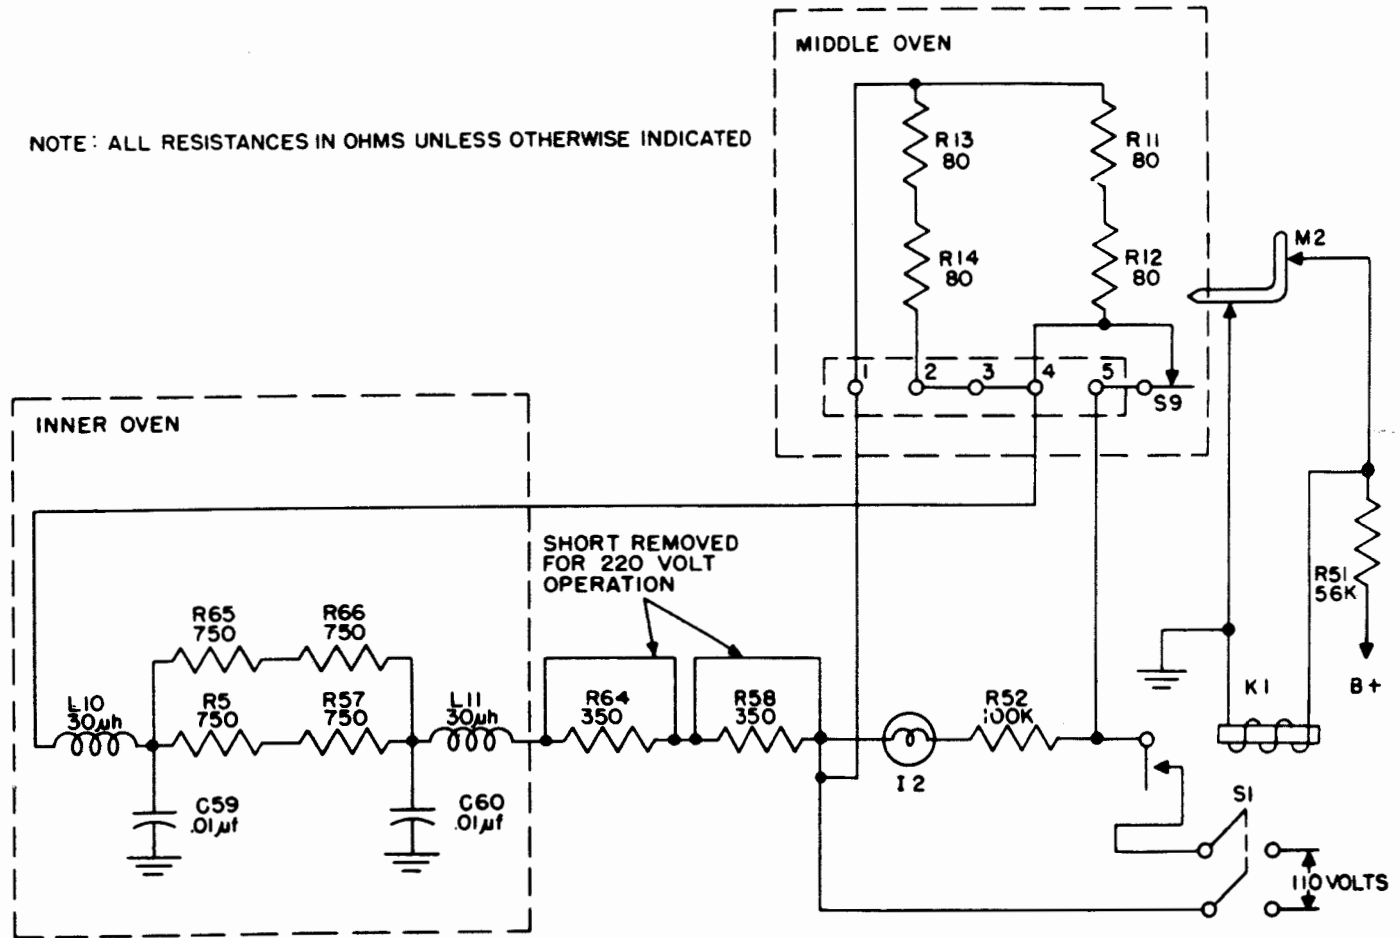

Figure 2-9. Temperature Control Circuit, Simplified Schematic
1. TEMPERATURE CONTROL. (See figure 2-9.)— A three-section oven in RF Oscillator O-165/UR is provided to control the temperature. The oven controls the temperature of the variable oscillator V1, buffer tube V2, and the calibrator oscillator mixer tube V3. Power is applied to the inner and middle oven sections from the POWER switch S1. The outer oven section consists of insulation only and uses no power.